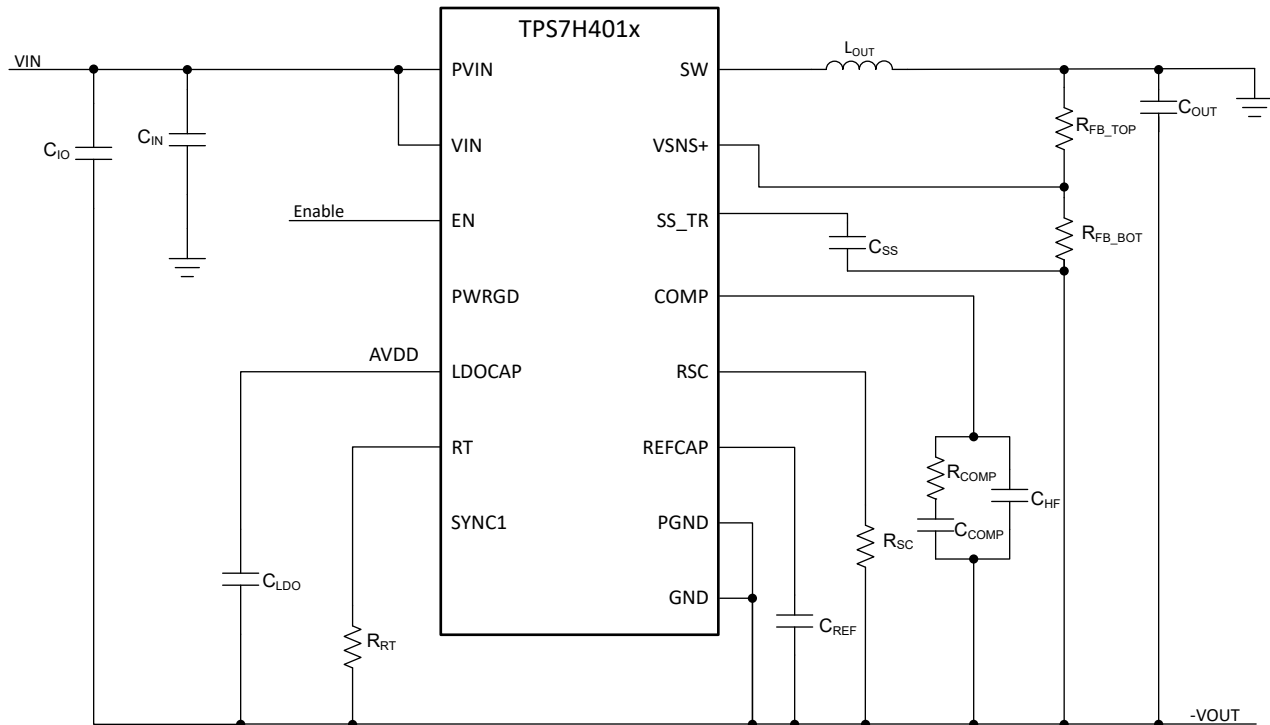

Figure 10-4. Simplified Schematic of Inverting Buck-Boost
The TPS7H401x can be configured as an inverting buck-boost to create a negative output voltage as shown in Figure 10-4.
- C_{IO} in Figure 10-4 is the standard input capacitor that is utilized in a buck converter. C_{IN} is an input capacitor with respect to system ground which provides a low impedance path at the regulator input.